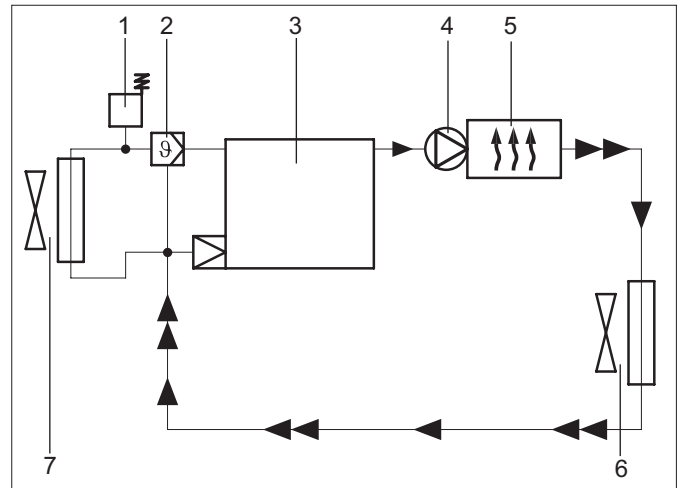
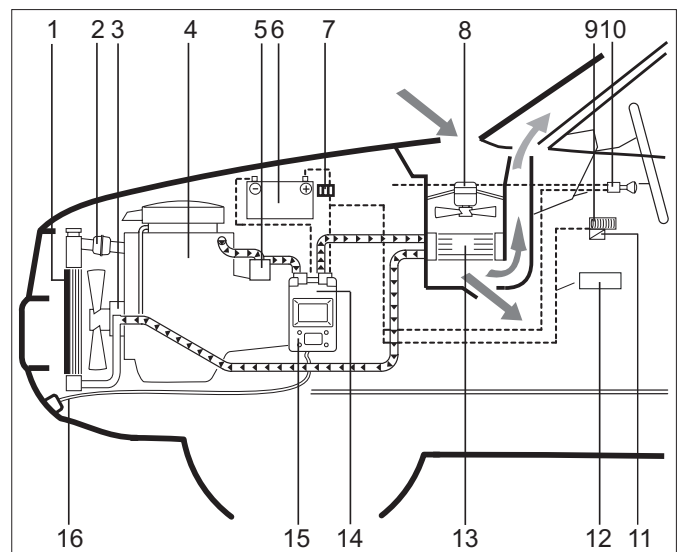

Fig. 07: Example installation of coolant system
Fig. 08: Example installation of the heater in a vehicle
- ▶ Install the heater on the vehicle coolant system as shown in Fig. 08.
- ✓ The coolant pump must be installed in the coolant system on the coolant inlet of the heater, on the delivery side (see Fig. 07, Fig. 08).